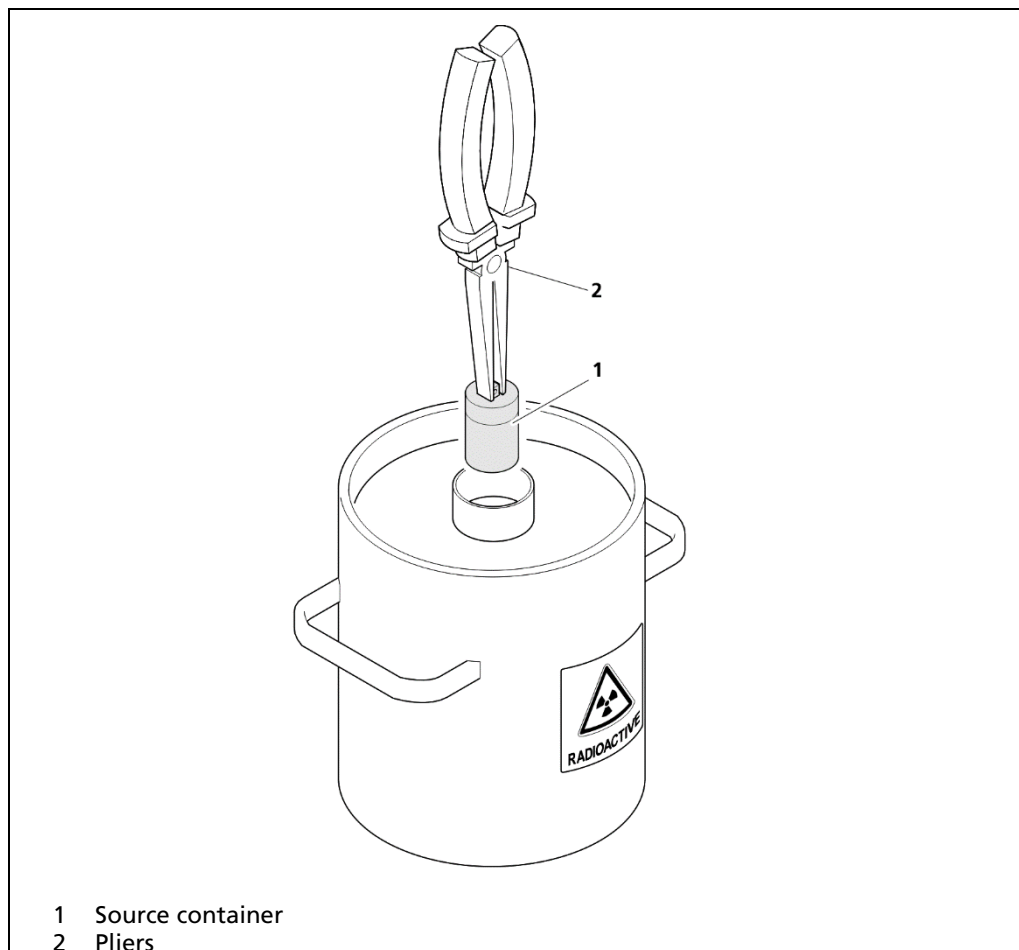

Fig. 10 Insert source into the transport shield
2. Place the source container (Fig. 10, Item 1) with pliers or similar (Item.2) as quickly as possible in the shield.